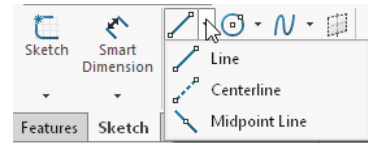

Figure 2-20 The **Line** flyout
1. Click on the down arrow next to the **Line** tool; the **Line** flyout is displayed, refer to Figure 2-20.